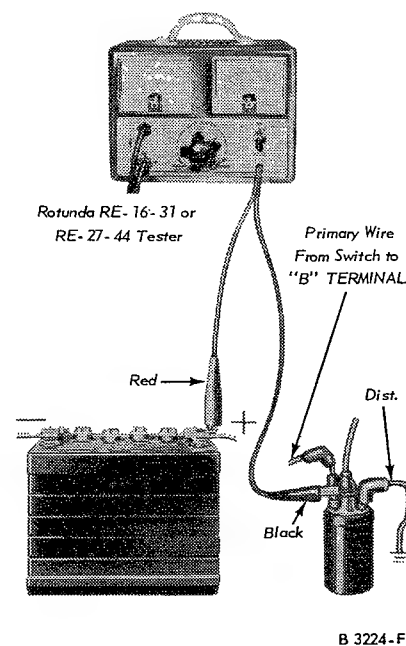

FIG. 3 Battery-to-Coil and Starting Ignition Circuit Test
1. Connect the voltmeter leads as shown in Figure 3.